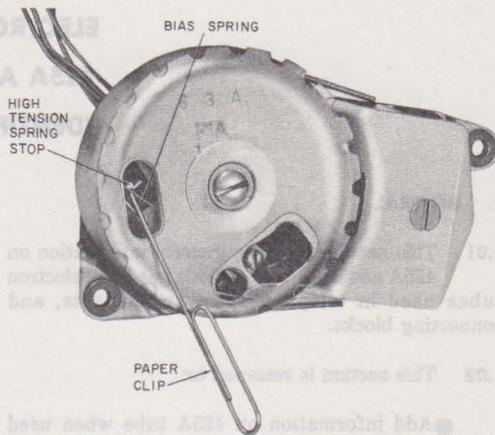

Fig. 6—Biasing Spring Adjustment
3.01 The bias spring tension is a two position control on the P1-type ringer. The bias spring is factory-set in the high tension position (Fig. 6). If the ringer does not operate properly, due to long subscriber loop, place the bias spring in the low tension position as follows: